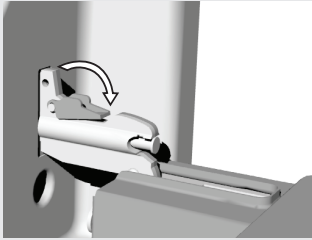

figure 2
- With GentleClose door system, rotate the stoppers back by 90°(Figure 2).